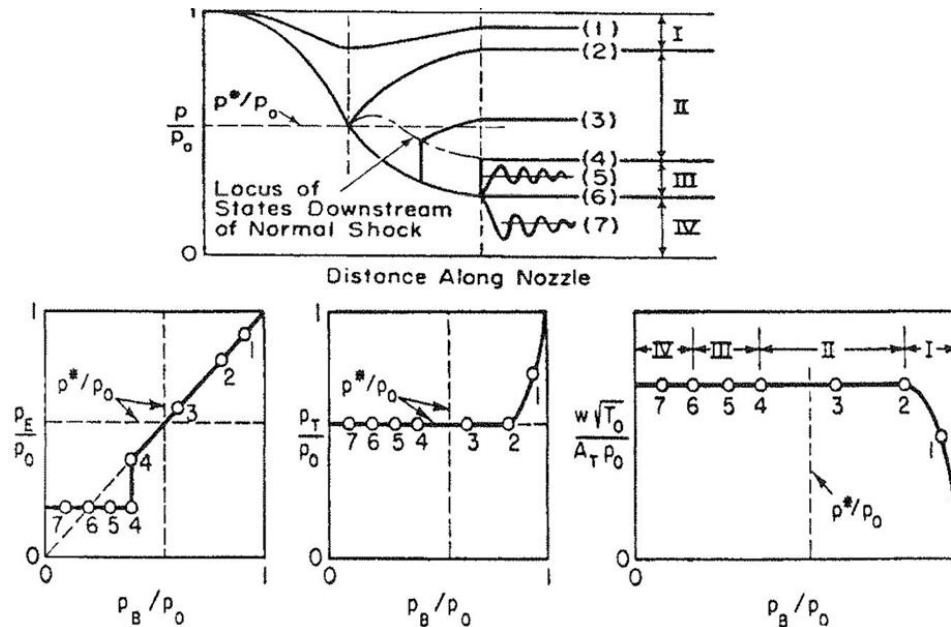

Figure 2: Flow conditions and regimes in a converging-diverging nozzle.
Once the flow becomes choked, there are three possible flow conditions that can occur, subsonic isentropic flow (the flow decelerates after the choked condition), supersonic non-isentropic flow (where the flow accelerates supersonically, forms a normal shock, and decelerates subsonically after the shock), and supersonic isentropic flow (where the flow accelerates supersonically after the choked condition). Figure 2 shows the following seven profiles in the position versus pressure ratio plot:
- Identify the flow regimes and flow conditions in the above plots (analogous to Fig. 2).
- Plot the pressure ratios at the throat and exit with respect to the back pressure ratio and identify the flow regimes and conditions (analogous to Fig. 2):